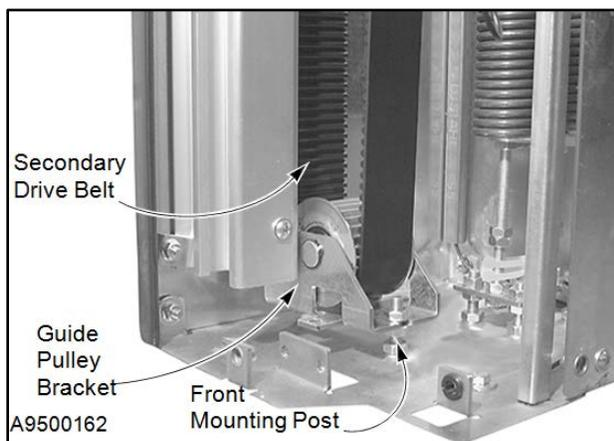

Figure 81
7. Release the tension from each secondary drive belt by removing the guide bracket from its front and rear mounting posts. The pulley bracket is held in place by a nut threaded onto each post. The trolley near the top can also be used to reduce the tension on the secondary drive belt for both the L & S size doors. (See Figure 81.)